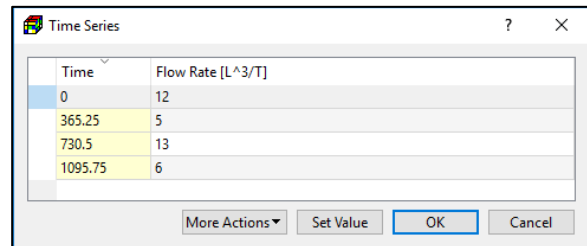

Figure 62. The Time Series dialog box
- **Time Series of Specified-Flow or Time Series of Specified-Head:** The Edit button is activated only if the Boundary Type is Specified-Head or Specified-Flow. Click the Edit button to open the Time Series dialog box (Figure 62) where you can edit an array of specified-flow or specified-head values for the current FHB1 cell instance. The features of the Time Series dialog box are as follows: